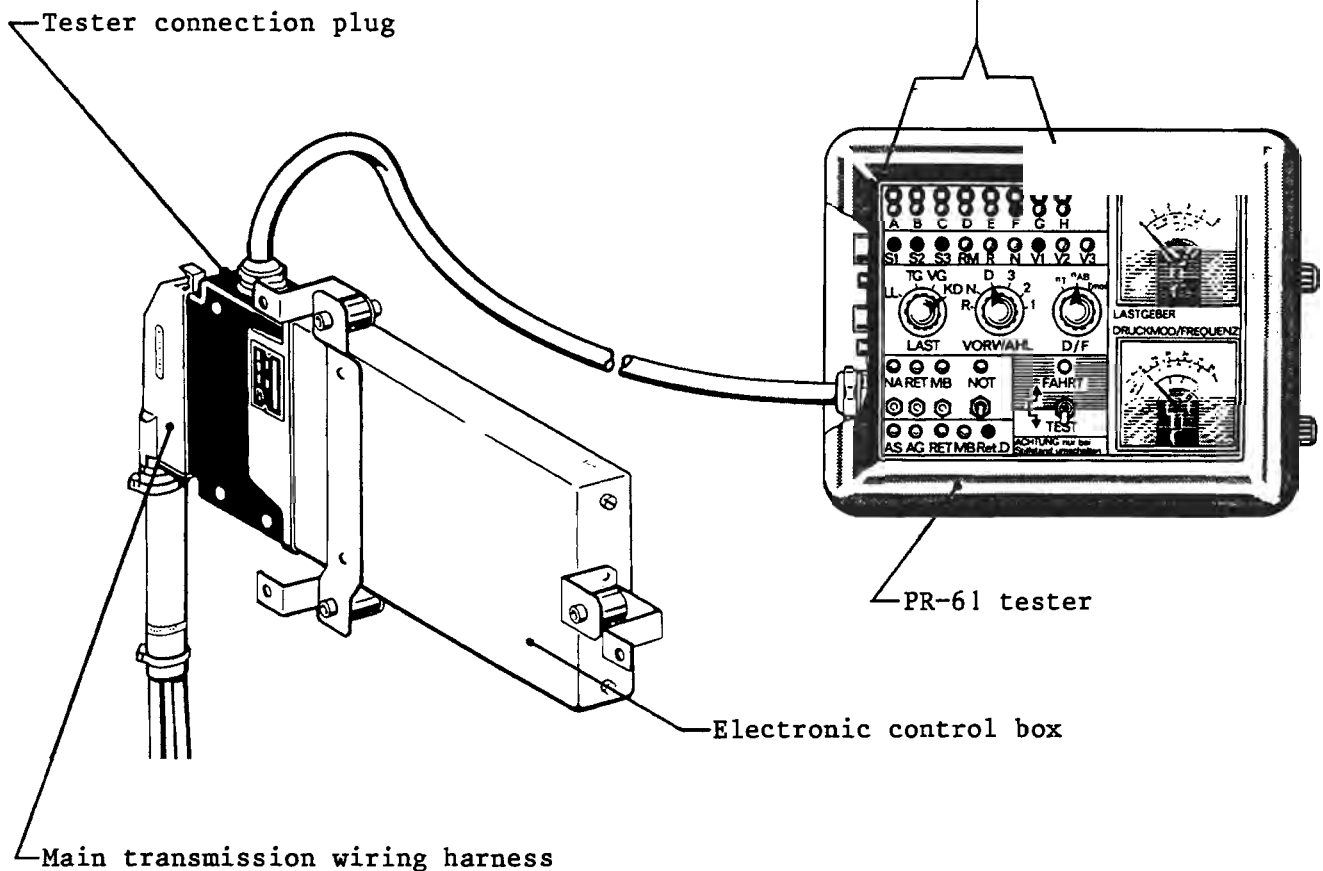

Fig. 7
- 1.4.3 Separate main transmission wiring harness from electronic control box. See Fig. 7.
- 1.4.4 Plug PR-61 tester into the electronic control unit. See Fig. 7.
- 1.4.5 Plug main transmission wiring harness to back of terminal for PR-61 tester. See Fig. 7. In other words, the 2-sided connector for the PR-61 tester is located between the electronic control box and the main transmission wiring harness, where it can intercept all signals passing between the transmission and control box.